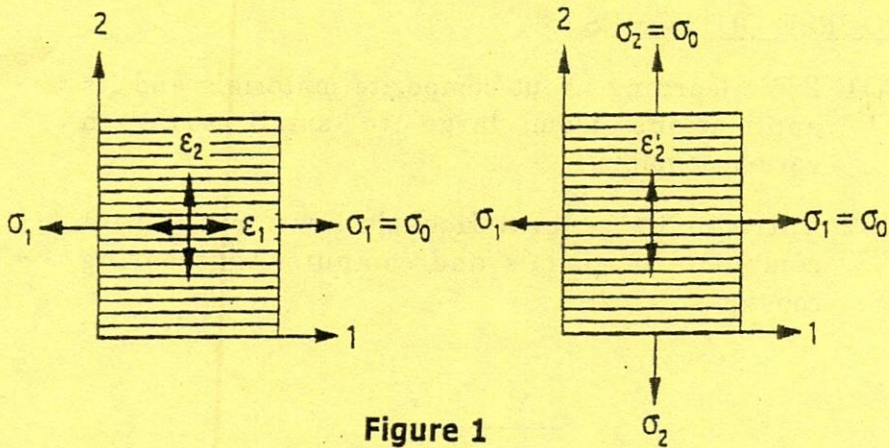

Figure 1
3. A unidirectional lamina is loaded (as shown in the Fig. 1) under a uniaxial stress  $\sigma_1 = \sigma_0$  and principal strains  $\varepsilon_1$  and  $\varepsilon_2$  are measured. Compute the transverse strain  $\varepsilon_2'$  of the same lamina when loaded under equal biaxial normal stresses  $\sigma_1 = \sigma_2 = \sigma_0$  as function of strains  $\varepsilon_1$  and  $\varepsilon_2$  obtained before and the modulus ratio  $k_E = E_1/E_2$ . 8 CO2